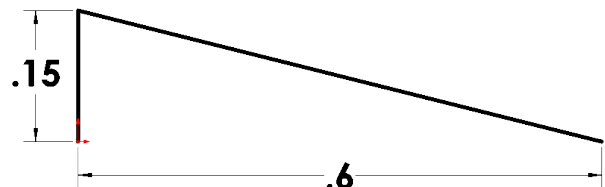

Fig. 4
Step 7. Click **Smart Dimension**  (S) on the Sketch toolbar.
Step 8. Dimension lines, **Fig. 4**.